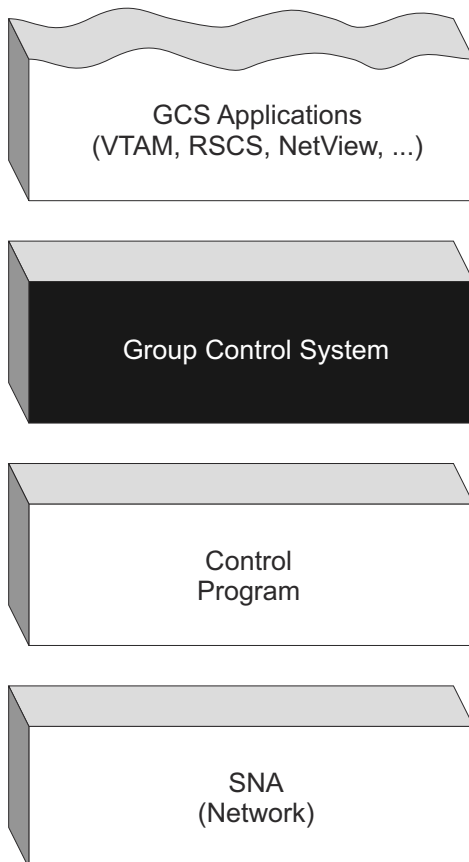

Figure 1. Group Control System, an Interface between Applications and the Control Program
- z/VM's Control Program (CP), Figure 1 on page 1.